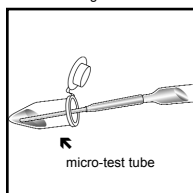

Figure 3
4. Fill the micro-test tube approximately halfway with the sample to be tested (fig. 3).
6. Holding the VACUette almost horizontally, touch the tip to the contents of the micro-test tube (fig. 3).